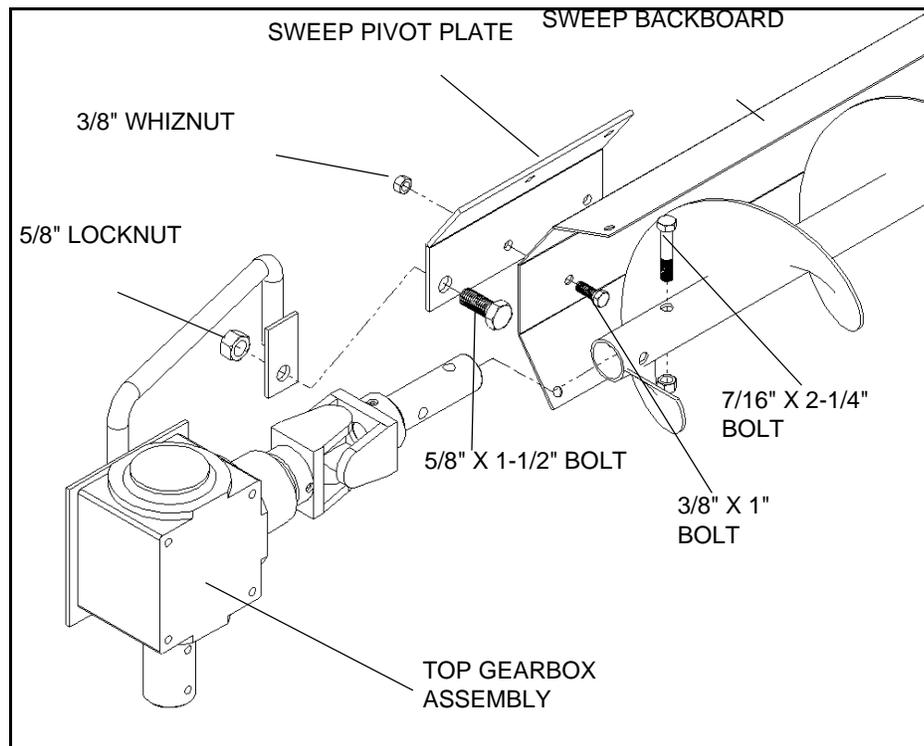

Figure 3.16
2. Connect sweep pivot plate to back of sweep backboard as shown in Figure 3.16. Use four 3/8" x 1" bolts w/ whiznuts, and secure tightly.